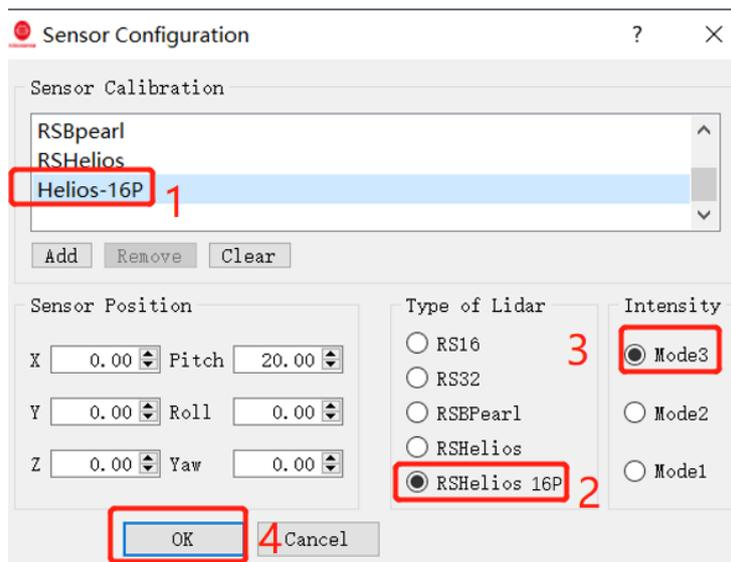

Figure C-2 Select RS-Helios-16P Parameter Configuration File
4. The Sensor Configuration dialog will appear. In “Type of Lidar”, chose RSHelios-16P. In “Intensity”, chose Mode3. Then click **OK**, as shown in Figure C-2: